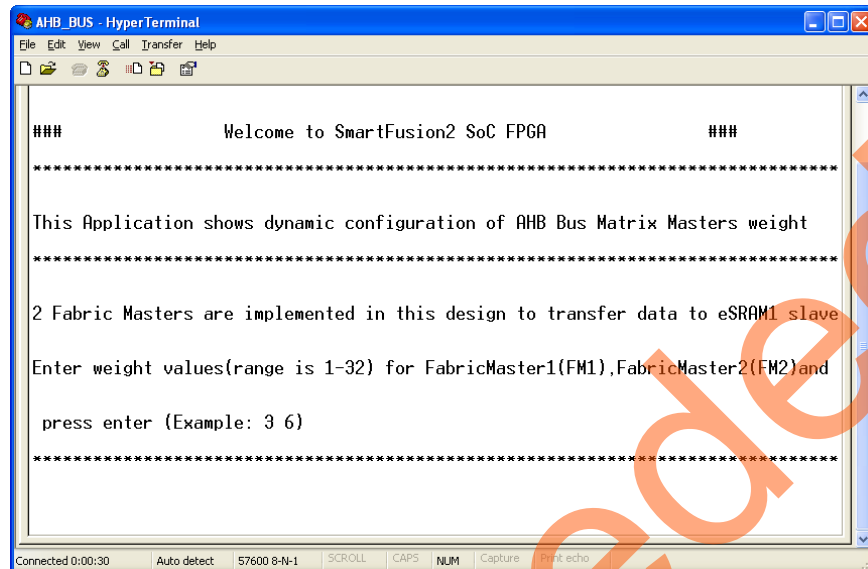

Figure 13 • Welcome Message and Weight Selection in HyperTerminal Session
- Program the SmartFusion2 SoC FPGAs Development Kit with the provided programming file (refer to "Appendix A - Design and Programming Files" section on page 17) using FlashPro software, and power cycle the board after successful programming. A welcome message is displayed as shown in Figure 13.
Updated Figure 5 , Figure 11 , Figure 13 , Figure 14 , Figure 15 , Figure 10 , and Figure 11 (SAR 42846).	n/a